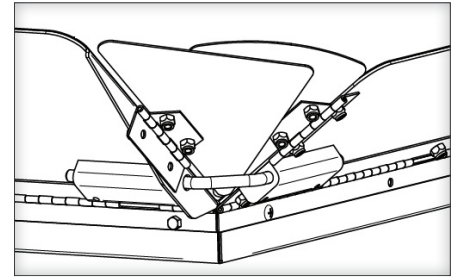

Figure 9-1
**16. If equipped with a 90° ramp,** insert the corner rod through the gray slide block on the underside of the ramp and attach the ramp to the hinge with three (3) Phillips head screws and nuts. [Figure 9-1]